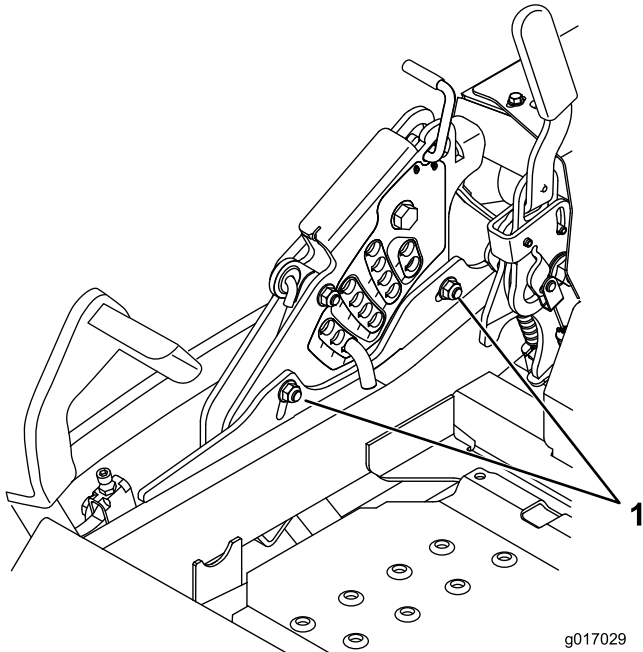

Figure 93
13. To adjust the single point system, loosen the 2 bolts at the bottom of the height of cut plate. Refer to Figure 93.
15. Tighten the 2 bolts at the bottom of the height of cut plate (Figure 93).